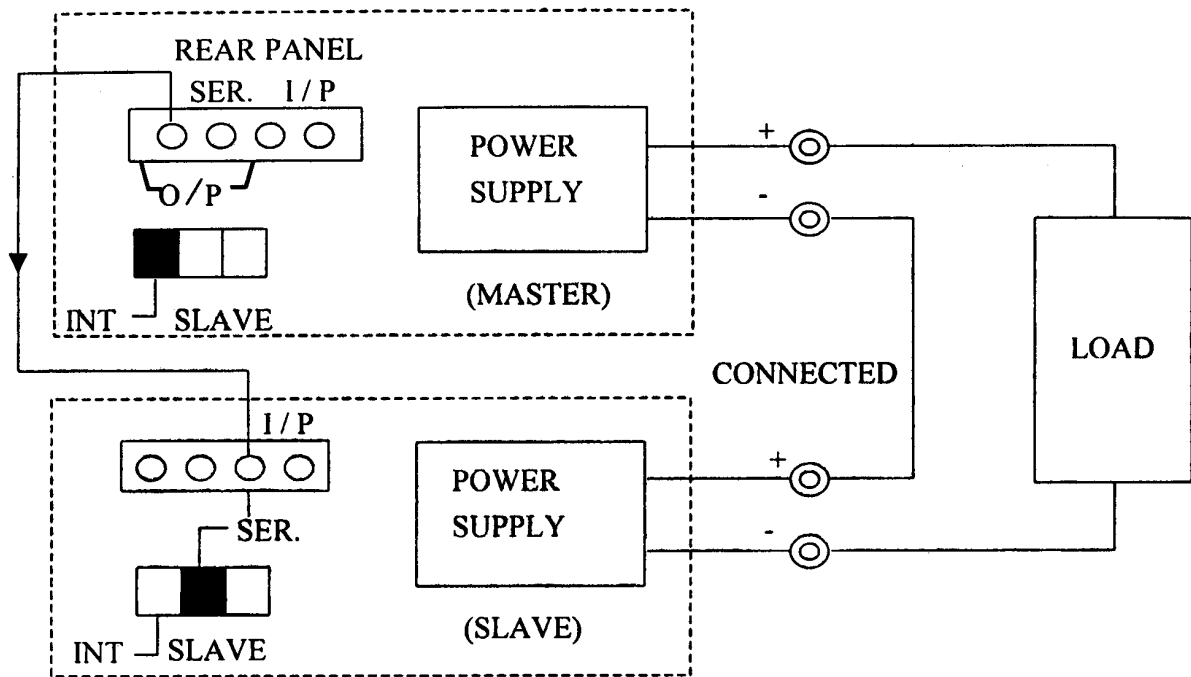

Fig. 5-2 Connecting Two Power Supplies in Series
- Two power supplies can be connected in series to provide higher voltage and rating current output. See Fig. 5-2 for the connection scheme.
(1) Single Operation